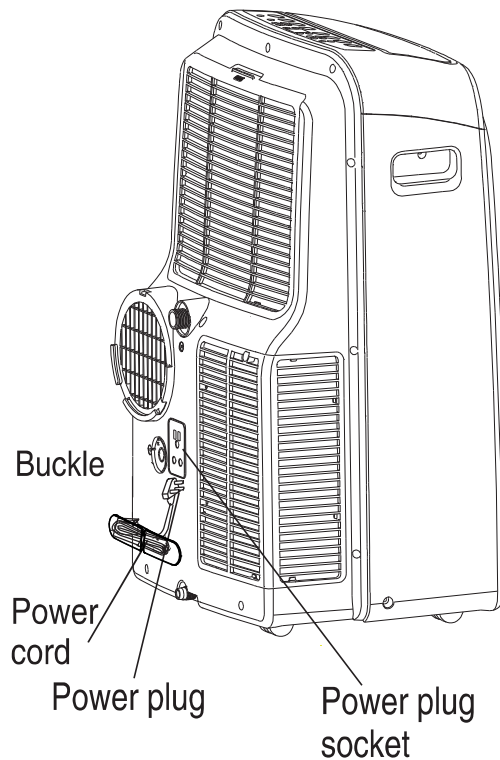

Figure 25
- Stop the appliance and unplug it, wrap the cord and bundle it with the tape (Fig. 25). Remove the batteries from the remote controller.